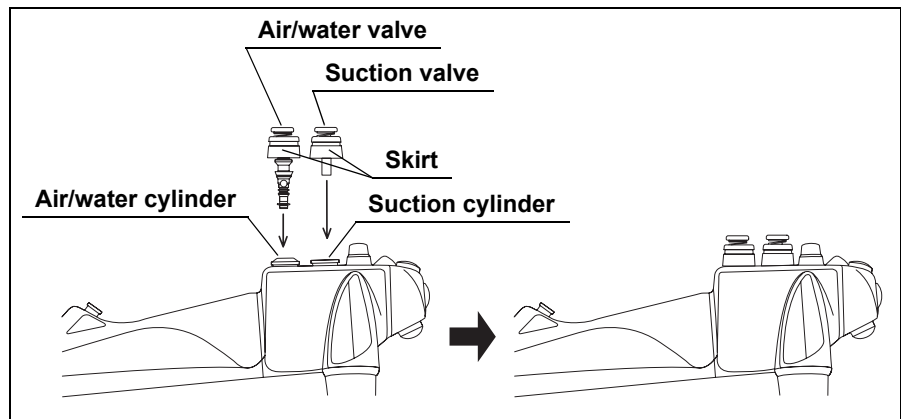

Figure 3.16
1. Attach the air/water valve to the air/water cylinder of the endoscope (see Figure 3.16).